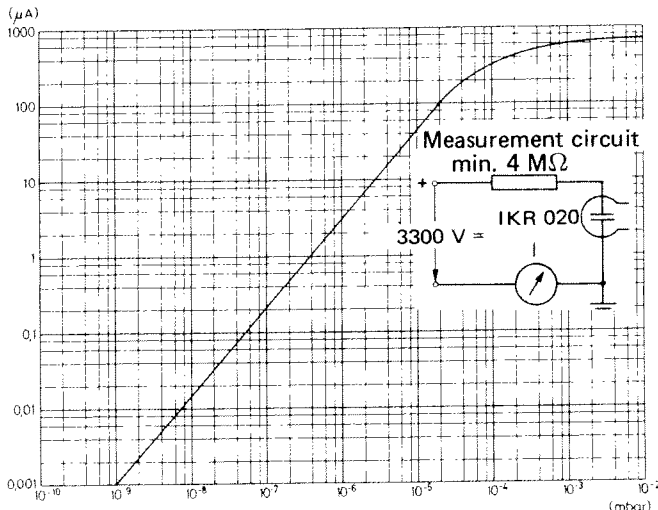

Fig. 5 IKR 020 characteristic curve
It is supplied with a stabilized direct voltage of 3.3 kV. The current is limited by the measurement circuitry to approx. 700 μA according to Fig. 5. The special design avoids glow discharge breakdown throughout the whole measuring range. The measurement current is stable, virtually inertia free and reproducible within narrow limits. Short operating times at high pressures or inrushes of air do not affect the function of the IKR 020. The gauge head can be disassembled for cleaning purposes. Calibration is restored after short operation.
4. Compare with ionization gauge head as per curve sheet Fig. 5.